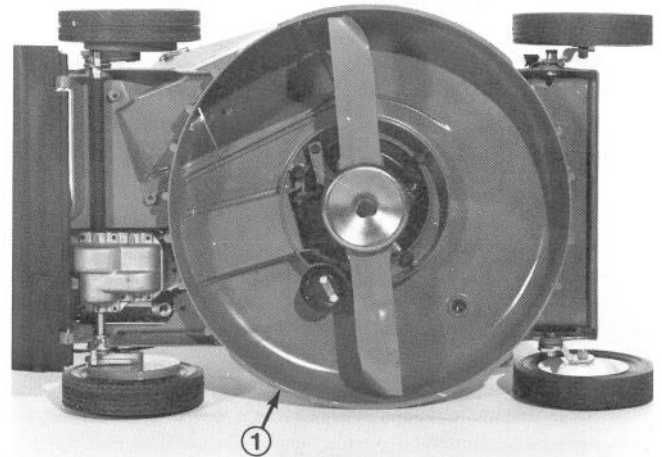

Figure 31
2. Tip mower on its left side (Fig. 31).